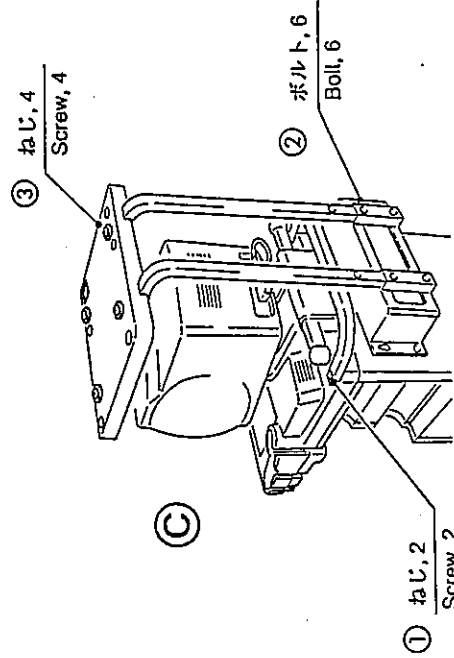

図4 Fig. 4
- (7) 仮止めておいたねじ6本、ボルト6本を図の①~③の順に締め付ける。(図4Ⓒ)
(7) Follow Steps ① thru ③ as illustrated to tighten 6 screws and 6 bolts, both tacked beforehand. (Ⓒ in Fig. 4)